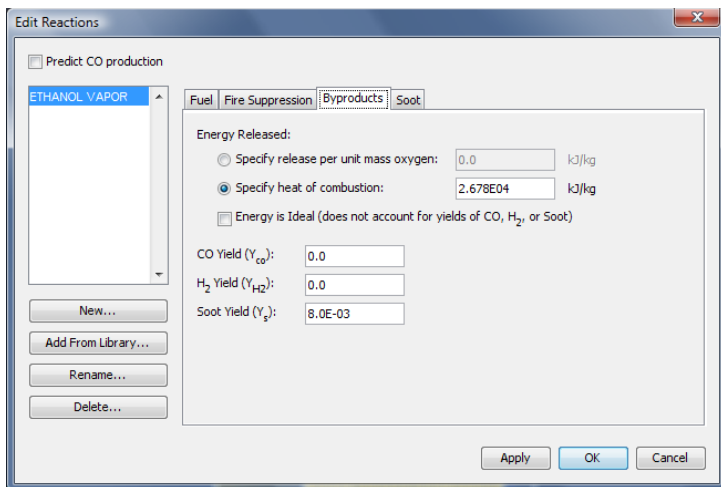

Figure 11.4. Byproducts panel of the Edit Reactions dialog
5. On the **Byproducts** tab, you can select either **Specify release per unit mass oxygen** ($EPUMO_2$) or **specify heat of combustion** ($HEAT_OF_COMBUSTION$). You can also specify the CO yield, H2 yield, and Soot yield. The values used for the ethanol pan fire are shown in Figure 11.4.